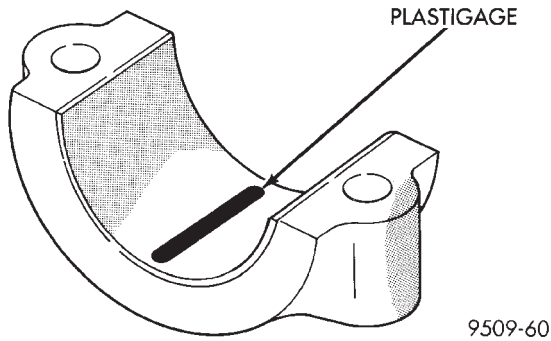

Fig. 4 Plastigage Placed in Lower Shell
- (1) Remove oil film from surface to be checked. Plastigage is soluble in oil.
- (2) Place a piece of Plastigage across the entire width of the bearing shell in the cap approximately 6.35 mm (1/4 in.) off center and away from the oil holes (Fig. 4). (In addition, suspected areas can be checked by placing the Plastigage in the suspected area). Torque the bearing cap bolts of the bearing being checked to the proper specifications.
the oil hole (Fig. 4). In addition, suspect areas can be checked by placing plastigage in the suspect area.